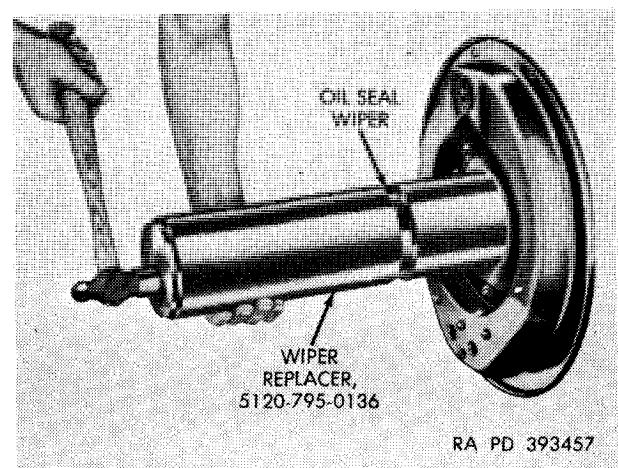

Figure 4-33. Installing oil seal wiper using wiper replacer
b. Installation. Install new oil seal wiper on axle using wiper replacer (fig. 4-33).